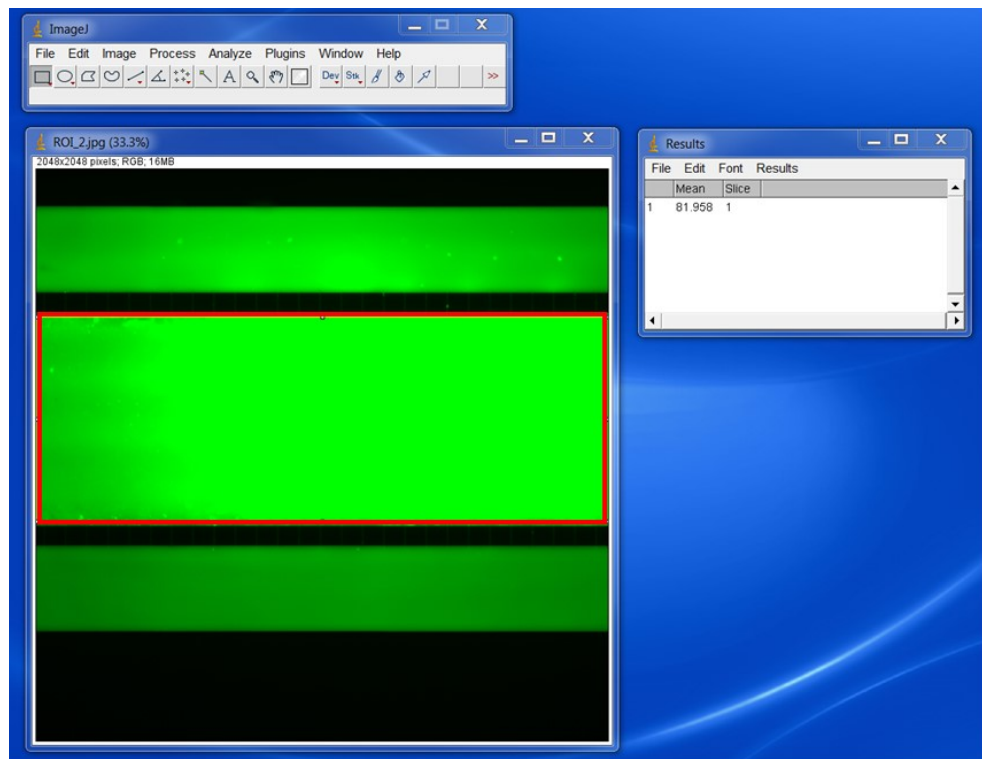

Figure 4. The mean gray value of the epithelial channel (red square) in ImageJ.
4. Analyze the mean gray value of the individual image or the stack (**Figure 4**):